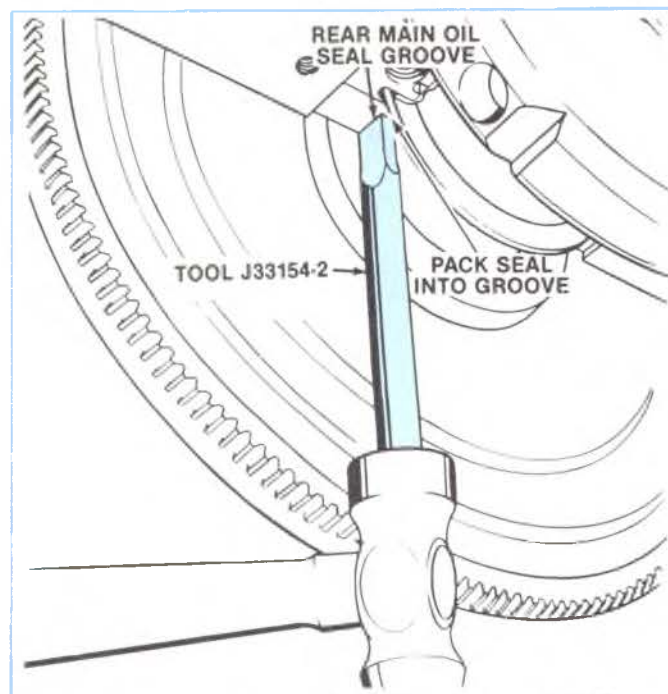

Figure 2-22, Packing Rear Main Upper Seal.
2. Insert Packing Tool J33154-2 against one end of seal in cylinder block and drive the old seal gently into the groove until it is packed tight. This varies from $\frac{1}{4}$ " to $\frac{3}{4}$ ", depending on the amount of pack required. (Figure 2-22).